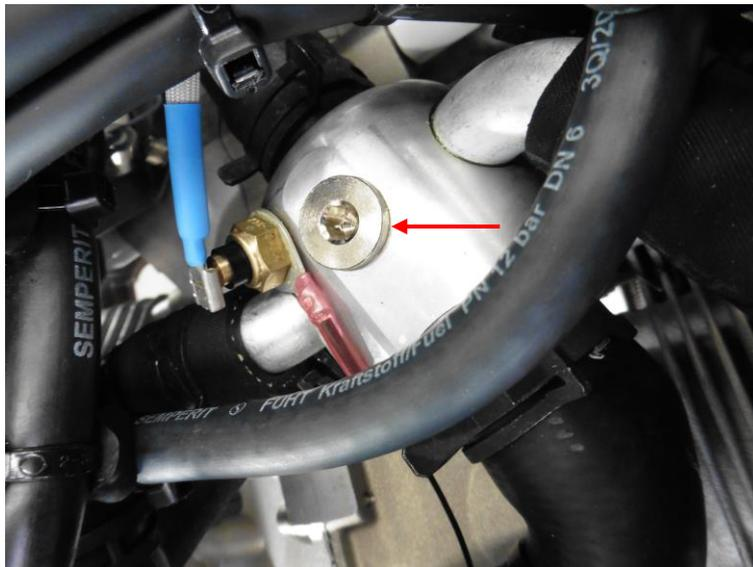

Fig.1: Dummy plug
- 6 Install a dummy plug to the vent. Use Loctite 542 (Fig.1).